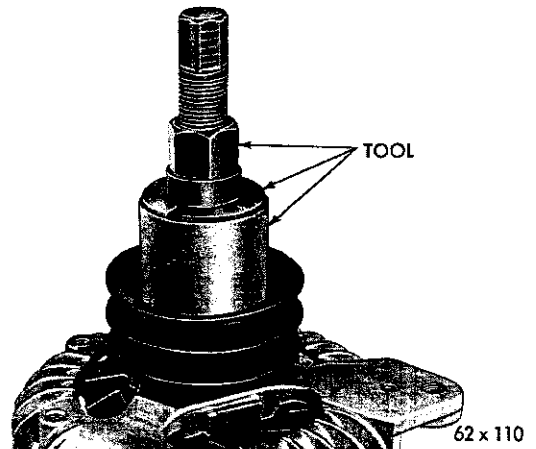

Fig. 58—Removing Pulley
(4) The pulley is an interference fit on the rotor shaft. Remove the pulley with puller Tool C-3615 and special adaptor SP-3002 (Fig. 58).